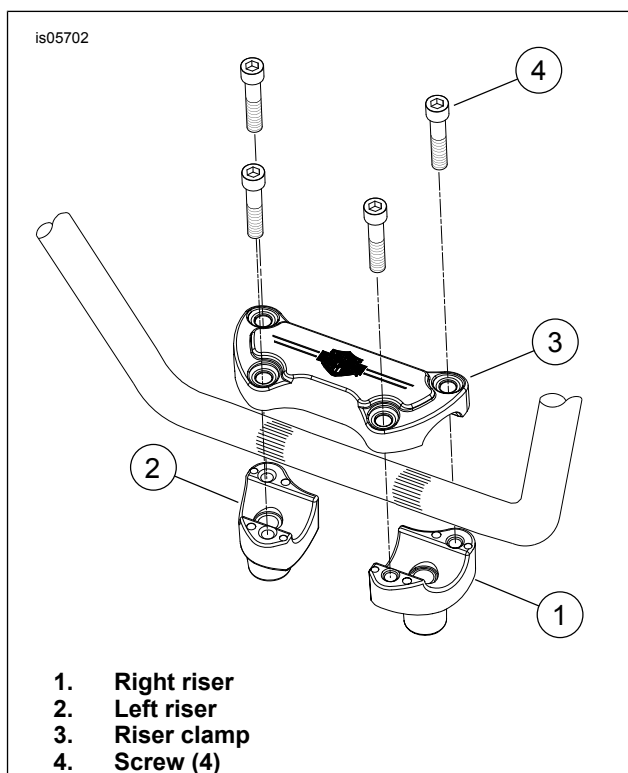
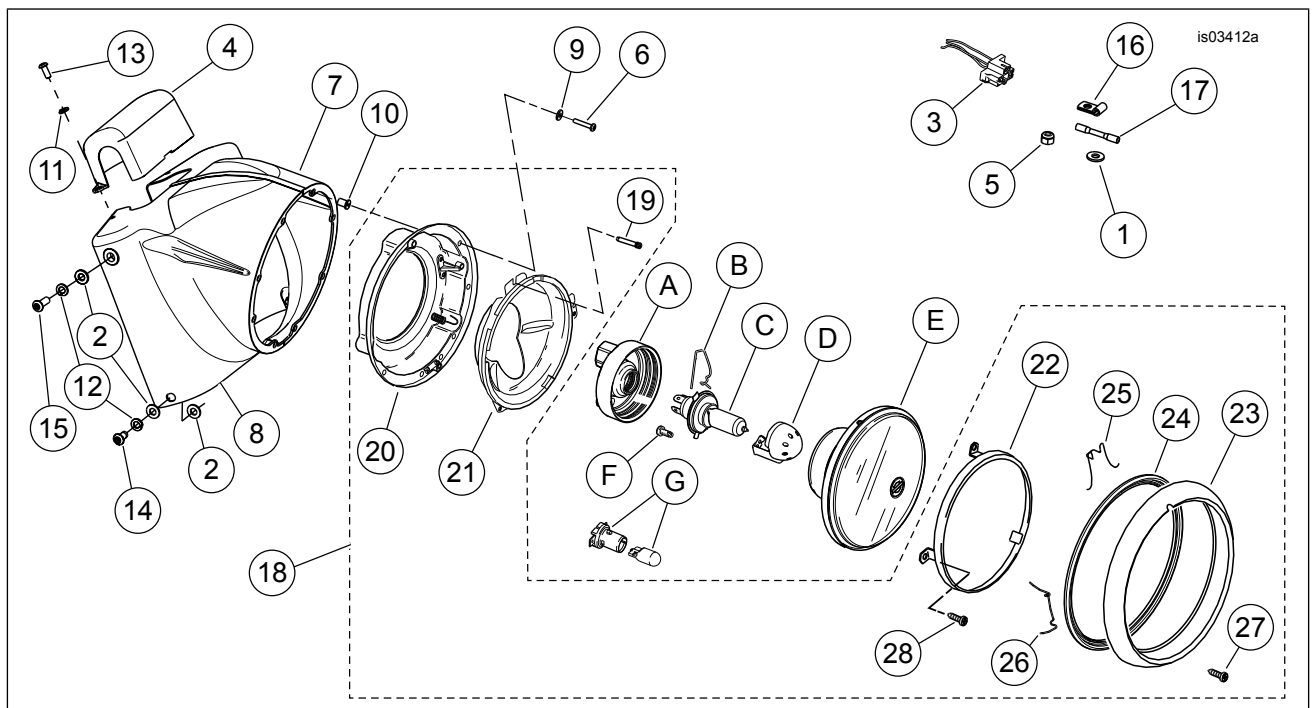

Figure 4. Riser Orientation - FLSTC
Figure 10. Service Parts, Freight Train Headlamp Nacelle Kits
- b. See Figure 4. Install new risers (Kit No. 46809-09), oriented as shown, to the upper fork bracket with the original equipment (OE) screws, lockwashers and washers. Install ground cable and internal tooth lockwasher onto the right side riser screw. Leave fasteners loose.
- d. Install riser clamp (3) onto the risers (1, 2) over the handlebar with four screws (4) from the kit.
10. See Figure 10. Install well nuts (10) into holes in nacelle halves. Install right side of nacelle (7):
- a. Attach the bottom of the nacelle to the fork bracket with a 16 mm (5/8 in) long screw (14), lockwasher (12), and two flat washers (2). Position a flat washer on both the inside and outside of the nacelle to align the nacelle flush with the fork slider covers. Leave fasteners loose.
- b. Attach the top of the nacelle with a 22 mm (7/8 in) long screw (15), lockwasher (12), and flat washer (2). Position flat washer on the outside of nacelle. Screw must not bottom out in hole. Leave fasteners loose.
11. Splice headlamp harness (3) into wires cut in Step 6:
- b. Insert each wire end being spliced into opposite ends of a sealed splice connector (17).
14. See Figure 10. Fasten the brake line to the back of the right side nacelle piece with two brake line retaining clamps (16) from the kit. Attach the retaining clamps to the right side nacelle piece with the original 16 mm (5/8 in) long cap screws, 6.4 mm (1/4 in) ID flat washers (1) and locknuts (5) (washer installs under nut).
17. Install the headlamp and bucket assembly into the nacelle using eight washers (4) and screws (5) from the kit.
18. See Figure 10. Place handlebar cover (4) into position and secure with 16 mm (5/8 in) long screws (13) and lockwashers (11).
4. See Figure 10. Install the headlamp trim ring assembly (23-26) with screw (27).